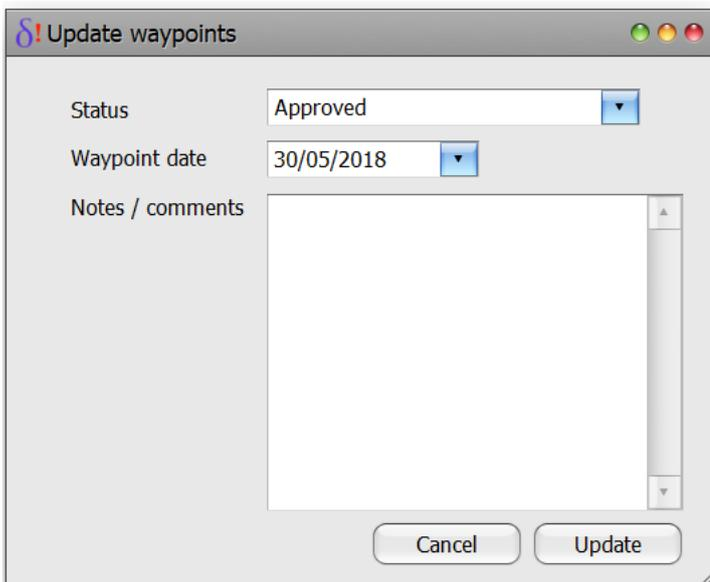

Figure 116 Updating waypoint
4. The Update Waypoint dialog will appear. From the status drop down select 'Approved' and then choose the waypoint date (the approval date of 30/5/18). Click Update (Figure 116).